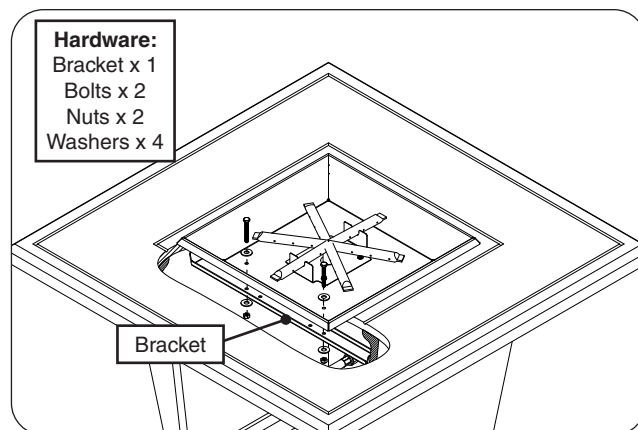

Fig. 30-4 Install bracket
6. Locate the supplied support bracket and install as shown in Fig. 30-4. The bracket must be inserted into the enclosure through the door opening, aligned with the holes found on the burner pan, and fastened with a 1/2" wrench and the supplied bolts (2), nuts (2), and washers (4).